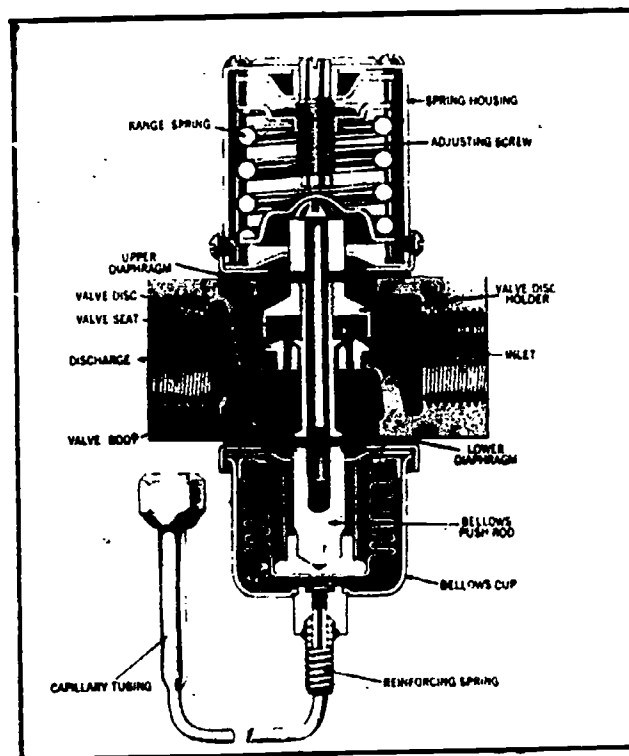

Fig 2-23. Water-regulating valve (sectional view).
- (5) **Water-regulating valve (fig 2-23).** In an air-conditioning system that employs a water-cooled condenser using water from local water supply systems, water flow through the condenser is controlled by a water-regulating valve. This valve operates by a predetermined condensing pressure. The valve is installed by connecting a capillary tube device to the discharge side of the condenser. This transmits condensing pressure to a bellows within the valve body. When the pressure rises to its predetermined point, the valve opens and water is allowed to flow. Conversely, when the pressure drops below this point, the valve closes. The range spring can be adjusted to the desired condensing pressure.